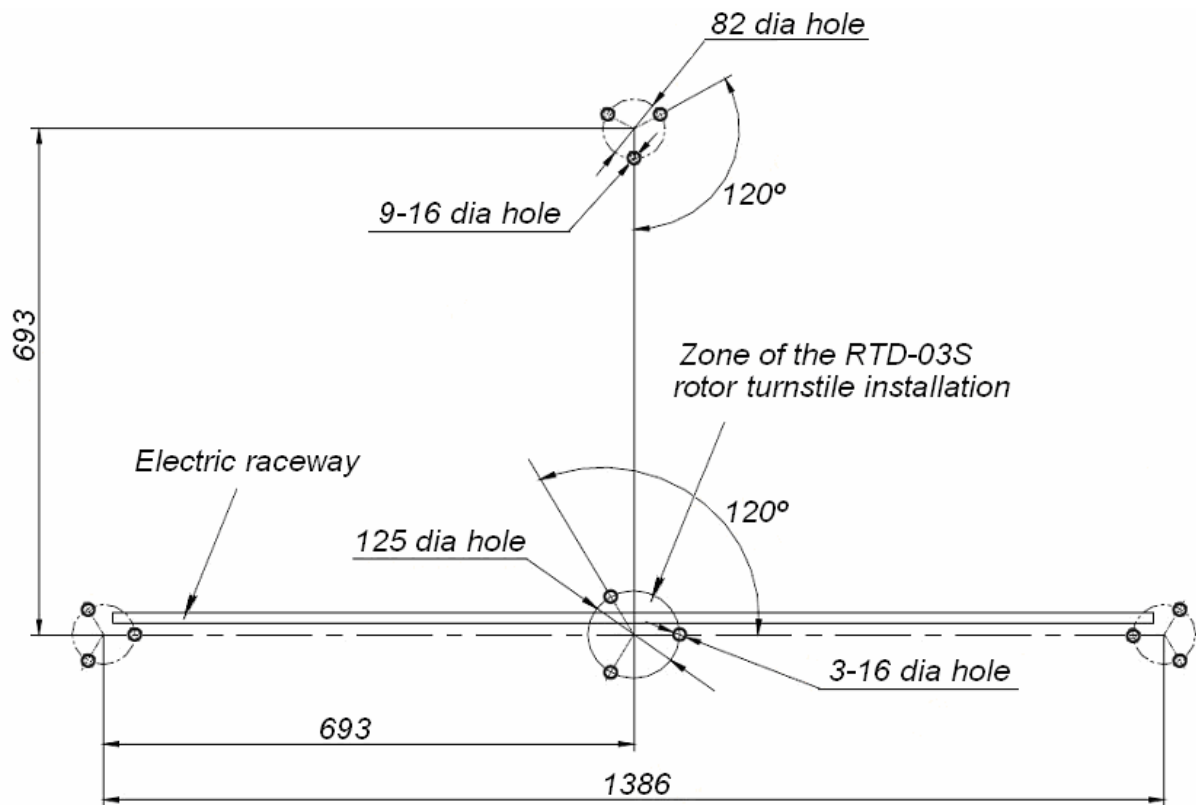

Figure 3 Marking for mounting of the Railing set posts
- to mark the mounting holes according to the enclosed installation instructions (see Figure 3);
3. Mark out the holes for the anchor bolts for the guide barriers post installation as shown in Figure 3.
6. Lay out the indication cable (10) via the right and left indication posts (1, 2) accordingly (not connecting to the indication modules). The connector marked with paint is laid via the right indication post (1).
9. Take the filler panel (9), Mount the filler panel on the centre post (3) through the centre holes with screws (12) Fasten the filler panel sides one after another to the two indication posts (1,2) with screws by bending the filler panel carefully in the direction of the corresponding post. This operation is recommended to perform by two persons.